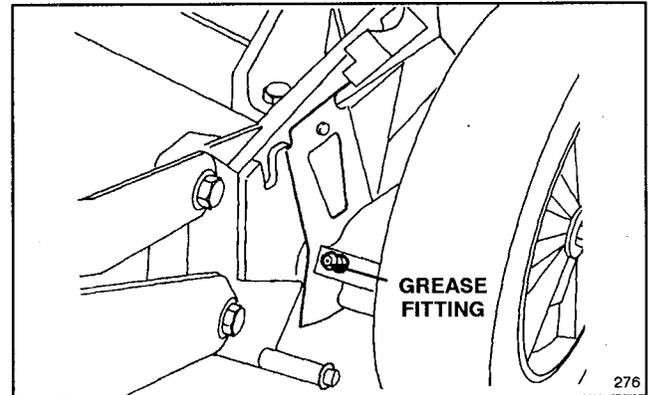

Figure 25
2. SELF-PROPELLED MODELS ONLY—Move rear wheel height-of-cut levers to “C” setting. Wipe grease fittings with clean rag (Fig. 25). Install grease gun onto fitting and gently apply 1 or 2 pumps of #2 Multi-Purpose Lithium Base Grease. Excess pressure may damage seals.